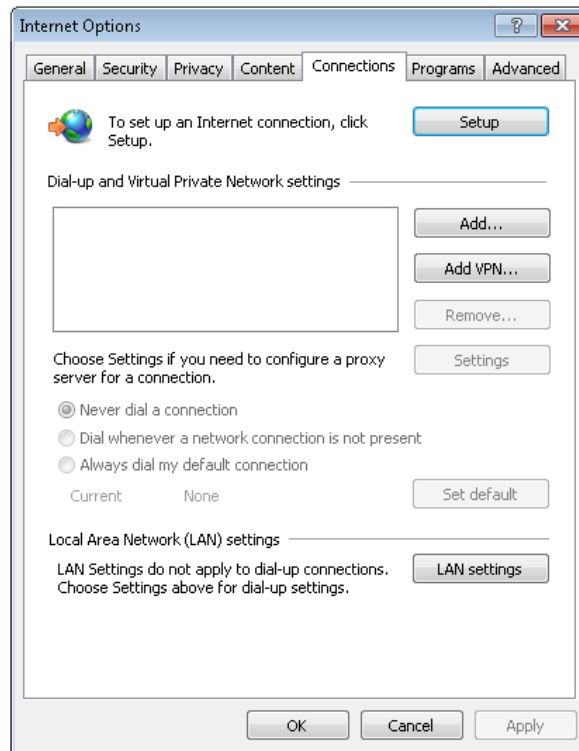
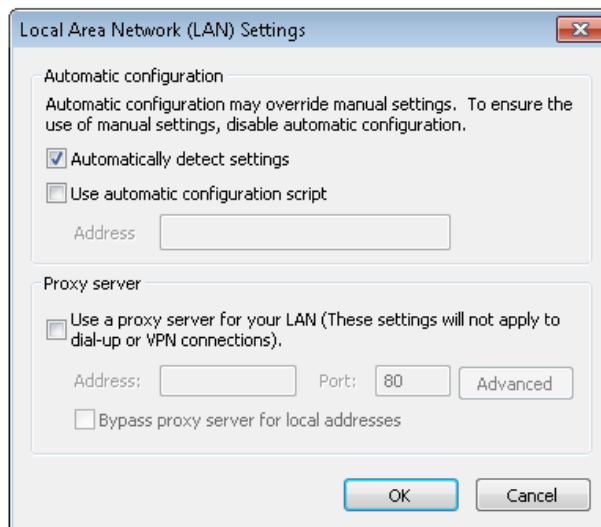

Figure 3-2 Choosing the **Connections** tab
Figure 3-3 LAN setting
1. Double-click the icon of IE to run the software, click the menus of **Tools -> Internet Options** and then choose the **Connections** tab to pop up the window shown in Figure 3-2.
2. In the window shown in Figure 3-2, click the button **LAN Settings** to pop up the window shown in Figure 3-3.